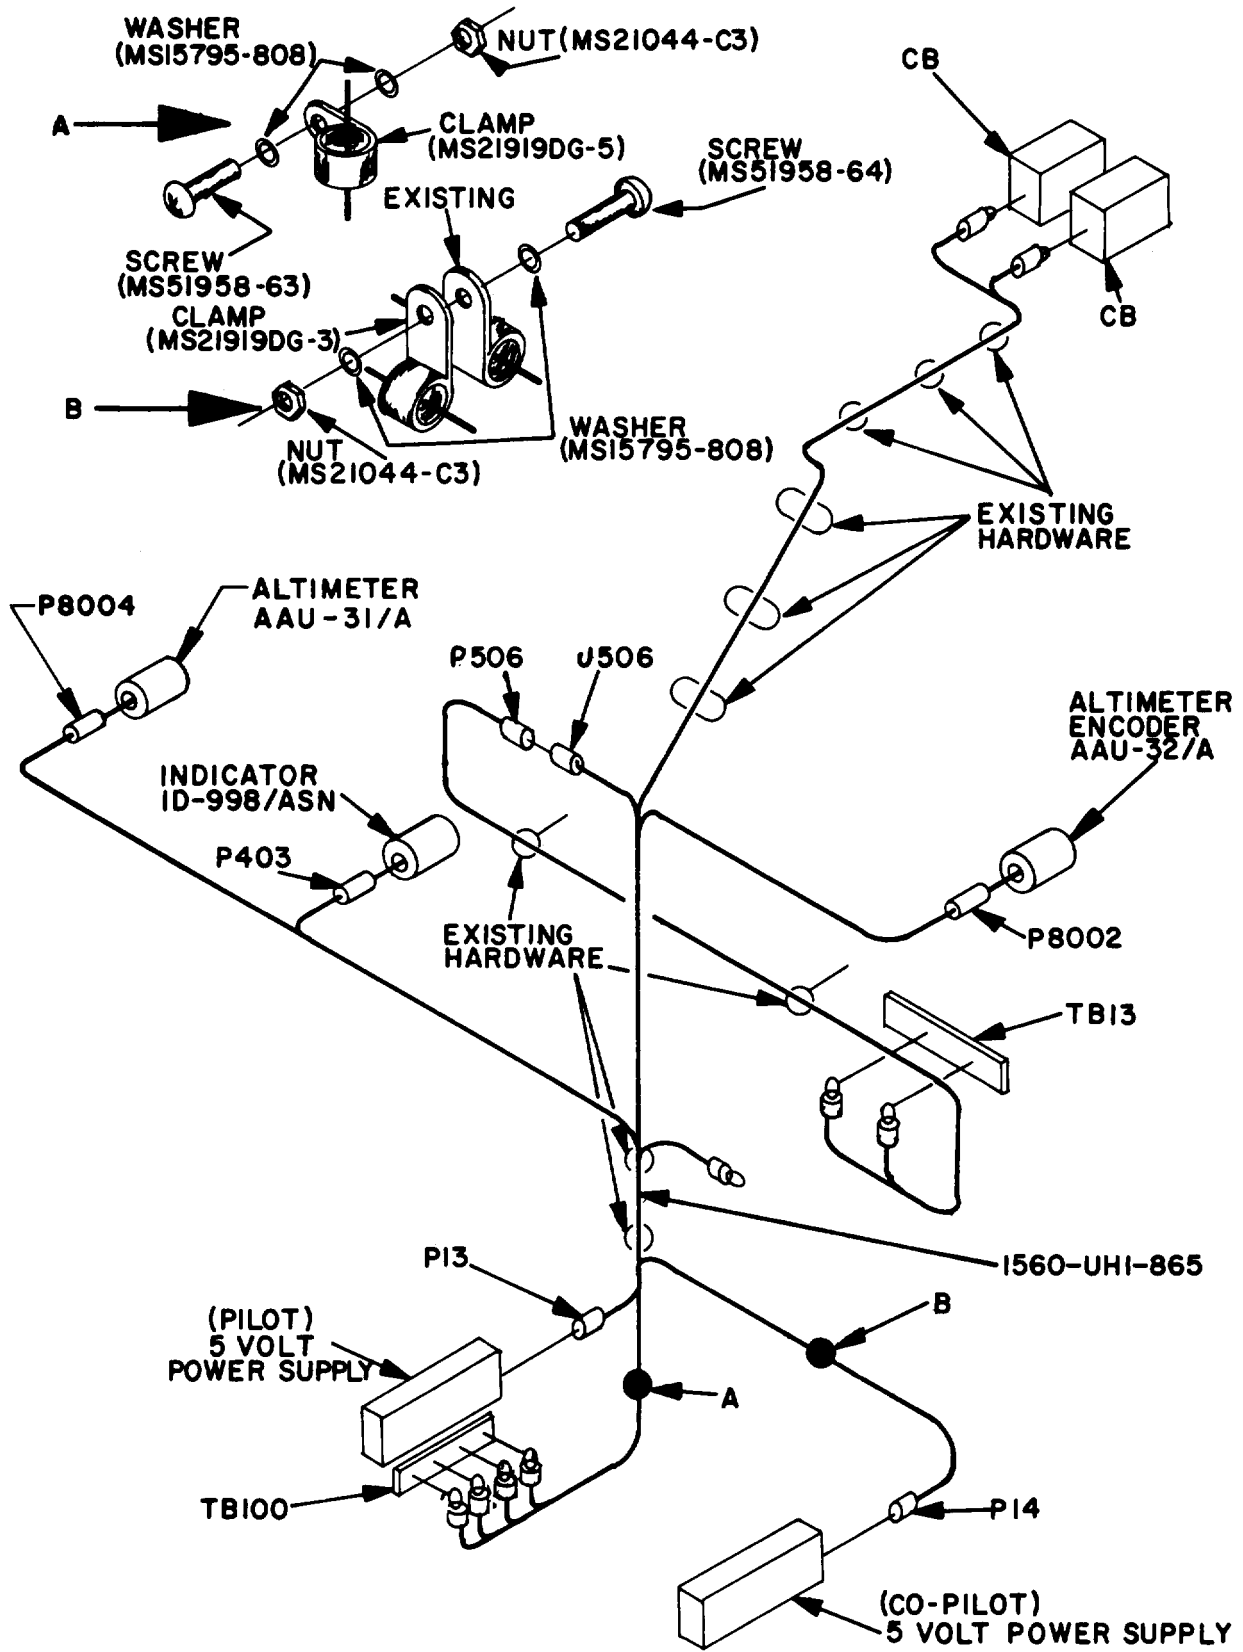

Figure 1. Wire harness installation detail.
(4) Install wire harness (1560-UH1-865) as follows (see Figure 1):
(k) Install clamp (MS21919DG3) on wire bundle leading from 5-volt power supply (copilot) as shown in Figure 1, detail B. Clamp is added to existing clamp at aft end of ARC-51 enclosure.
(l) Install clamp (MS21919DG5) on wire bundle leading to TB100. Locate clamp right side of ARC-51 enclosure, aft of connector P 13 (see Figure 1, detail A).
(m) Install clamp (MS21919DG5) on wire bundle leading to TB100. Locate clamp on right side of ARC-51 enclosure, aft of connector P13 (see Figure 1, detail A).